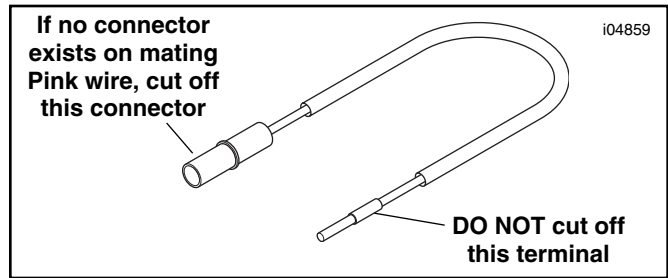

Figure 2. Pink Wire From the Kit.
- If there is no connector on the Pink wire, See Figure 2. Cut off the connector (NOT the bare socket terminal) on the 5 inch (12.7 cm) Obtain Pink wire from the new Speedometer/ Tachometer Kit and splice the Pink leads with the heat shrinkable butt splice from the kit.
1. See Figure 2. Cut off the Connector (NOT the bare socket terminal) on the 42 inch (1.07M) Pink wire from the new Speedometer/ Tachometer Kit. Crimp the ring terminal from the kit onto the cut end of the wire. Route the wire down from the console to the ignition coil. Connect the ring terminal to the primary terminal stud on the ignition coil.